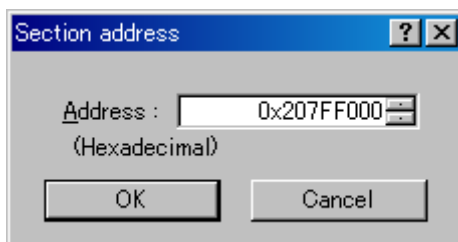

Figure 5.3.11 Section Settings (3)
- (3) [Section address] dialog box shown below will be displayed. In this dialog box, enter "0x207FF000" for the Address as shown in Figure 5.3.11, and press "OK".